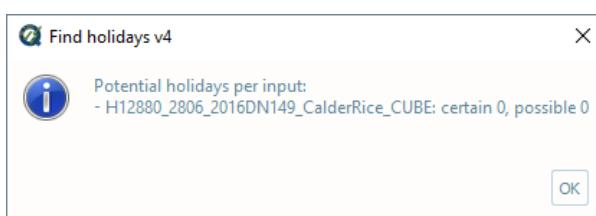

Fig. 2.20: The output message at the end of **Holiday Finder v4** execution.
- After computing, the output window opens automatically, and the results are shown (Fig. 2.20).